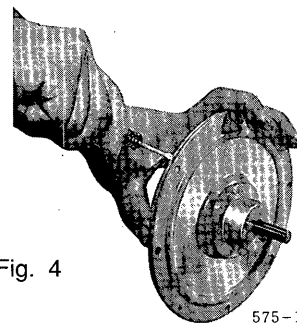

Fig. 4
2. Pry the brackets open by inserting a screw driver or edged tool between brackets. (See Fig. 4)
Pry the brackets open as described in Type UGPMEE- □ 2, Fig. 4.
3. Pry the brackets open as described in Type UGPMEE- □ 2, Fig. 4.
4. Pry the brackets open as described in Type UGPMEE- □ 2, Fig. 4.